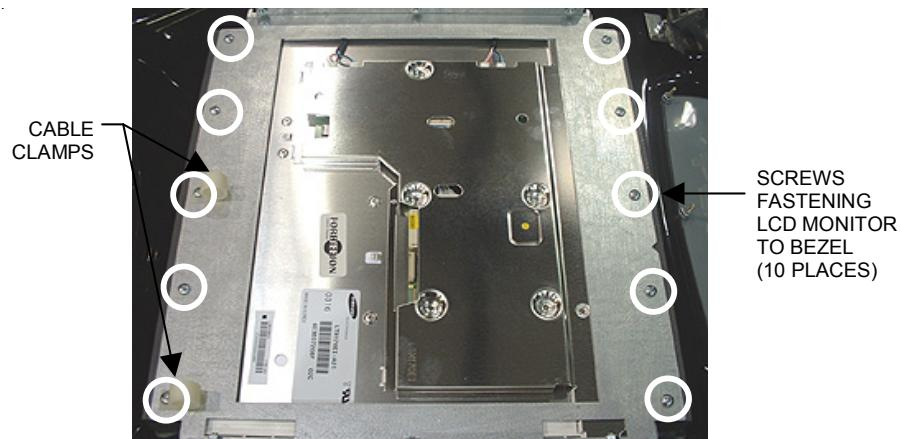

FIGURE 11 - FORCE FUSION WITHOUT ELECTRONICS BOX - UNDERSIDE OF MONITOR
6. Place the bezel assembly upside down on a flat surface and remove the 10 screws fastening the LCD monitor to the bezel (remember which 2 screws also fasten cable clamps), then remove the monitor from the bezel and unscrew the supporting brackets from the monitor. See Figure 11.